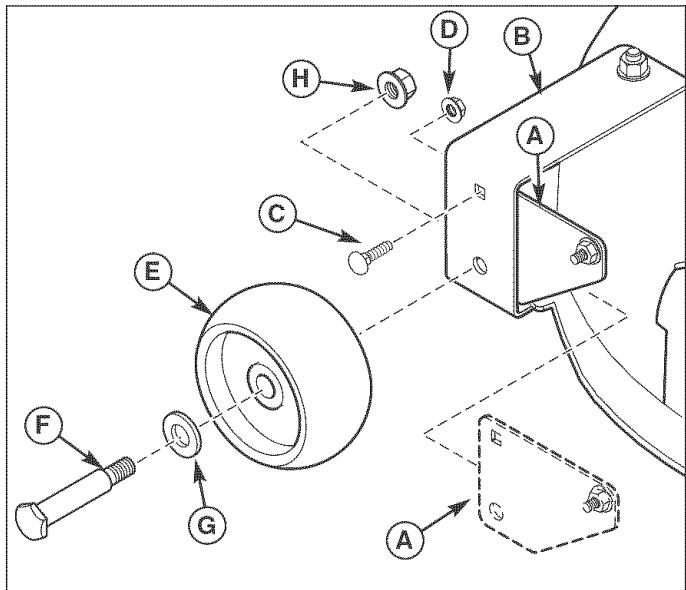

Figure 13. Latch Cover Installation
2. Attach latch cover plate (A, Figure 13) to guage wheel bracket (B) using a 1/4-20 x 5/8 carriage bolt (C) and 1/4-20 flanged lock nut (D).
3. Attach guage wheel (E, Figure 13) to guage wheel bracket (B) using wheel shoulder bolt (F), washer (G), and flange nut (H).